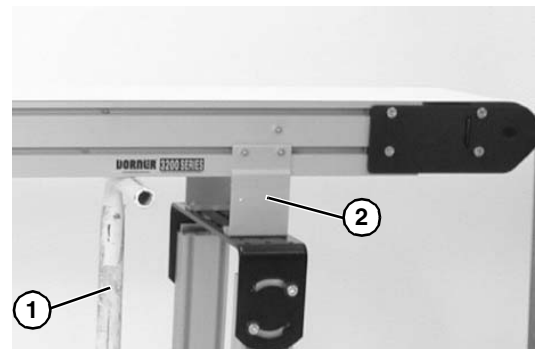

Figure 29
1. Place temporary support stands (**Figure 29, item 1**) at both ends of the conveyor. See WARNING.
4. Remove first mounting brackets (**Figure 29, item 2**) from one side of conveyor. (Reverse steps 3 & 4 of “Mounting Brackets” section on page 8).
1. Ensure temporary support stands (**Figure 29, item 1**) are placed at both ends of the conveyor. See WARNING.